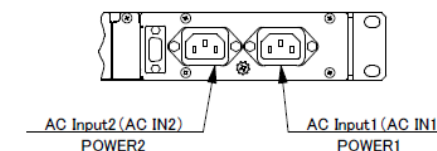

Figure 3. Location of AC Input
6. Connect the AC code to AC inlet2 as shown in Figure3.